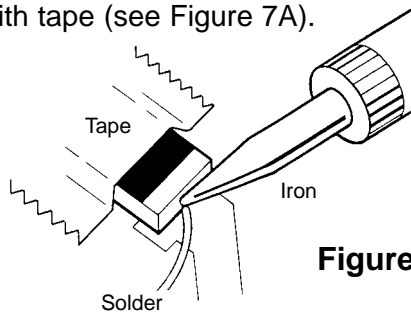

Figure 7A
1. Using tweezers, place the surface mount component on the PC board pads and secure in place with tape (see Figure 7A).